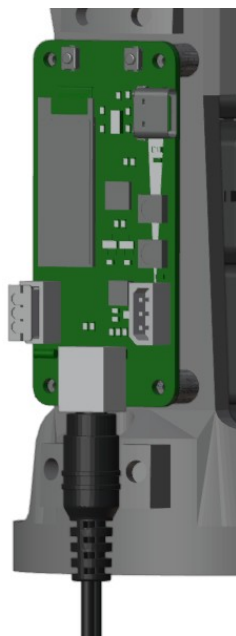

Figure 5.54: Power connector inserted
2. Power the logic board using the power connector (make sure the USB cable is disconnected) as shown in figure 5.54.